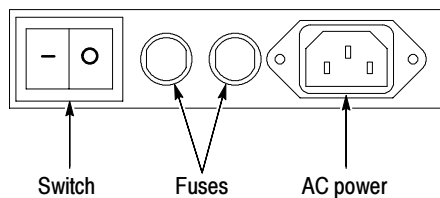

Figure 1-2: Line fuse and power cord connector locations, rear panel
1. Either one of the following fuse sizes can be used, each size requires a different fuse cap. Both fuses must be the same type. See Table 1-3 and Figure 1-2.
4. Turn the Power switch on at the rear panel. (See Figure 1-2 on page 1-8 for switch location.)